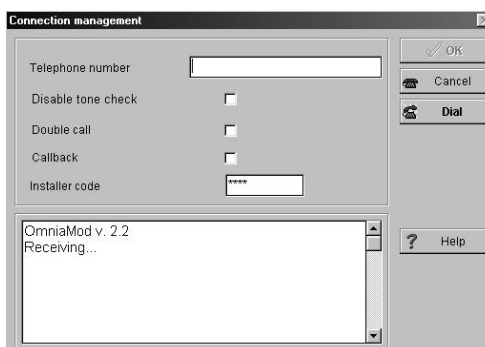

Figure 37 Incoming telephone line connection to Panel
- Step 4** Select **Connecting** from the **Modem** menu to open the **Connection management** window (see figure 37).